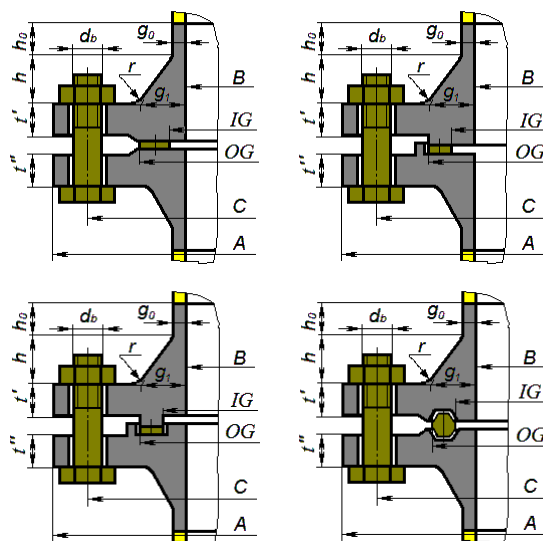

Fig. 3.76 Flange joint types as per ASME
Surface design of the flange joint at calculation as per ASME VIII-1(2) is shown in Fig. 3.76.